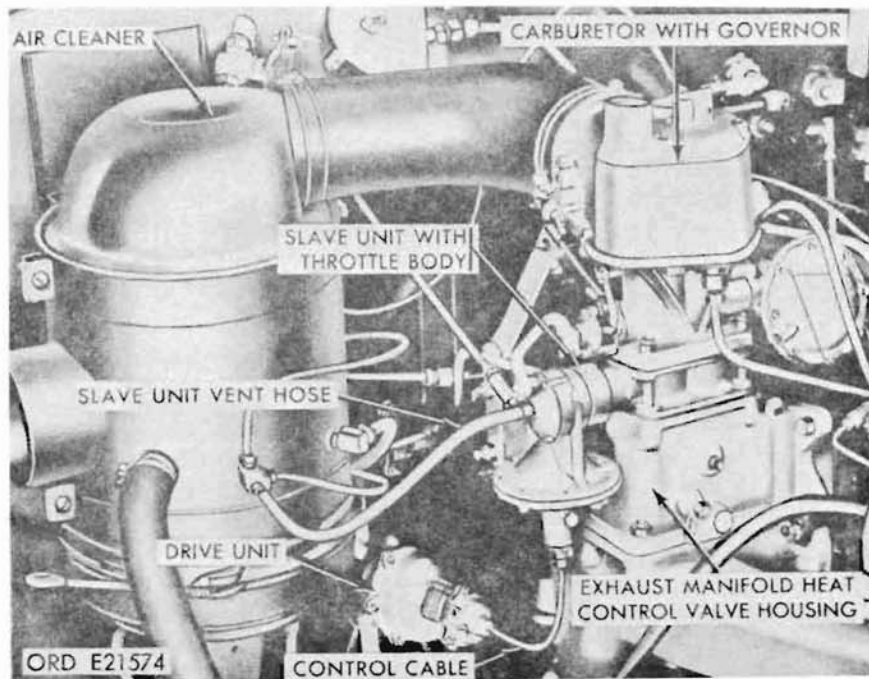

Figure 111. Engine auxiliary governor - installed
- (1) General. The fuel and air intake system is composed of the air cleaner, carburetor, carburetor controls and linkage, engine speed governor and governor valve, exhaust manifold heat-control valve and housing, fuel pump, fuel tank, fuel line, and hand primer pump, when present. M49, M49C, M50, M60 and M108 trucks are equipped with an engine auxiliary governor (fig. 111) consisting of the governor-drive unit and the governor slave unit. The drive unit is driven by a flexible shaft from an angle-drive adapter on the transfer power takeoff. The slave unit is secured to the throttle body that replaces the carburetor-mounting spacer.
- (11) Engine auxiliary governor (fig. 111). The auxiliary governor, composed of slave and drive units, controls the engine speed during operating of the truck-mounted equipment on M49, M49C, M50, M60 and M108 trucks. The auxiliary governor operates from an angle-drive adapter on the transfer power takeoff through the flexible shaft to the drive unit. The shaft rotation causes the flyweights in the drive unit to move against the spring tension, causing the control cable to actuate the control valve in the slave unit. The control valve uses the engine manifold vacuum to position the throttle valve plates in the slave-unit throttle body, regulating fuel mixture flow from the carburetor to the engine intake manifold. Governed speed is set by adjusting the drive-unit spring tension (par. 249). The auxiliary governor is sealed to prevent unauthorized adjustment.